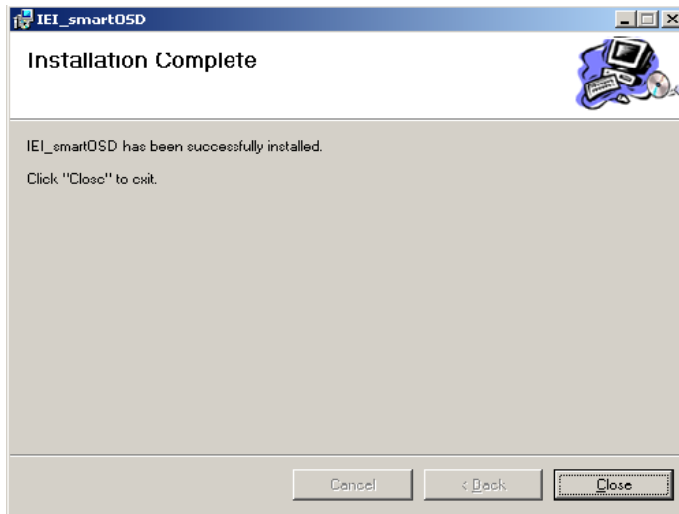

Figure C-6: smartOSD Installation Complete
Step 11: When the installation is complete the “Complete Installation” screen in Figure C-6 appears.